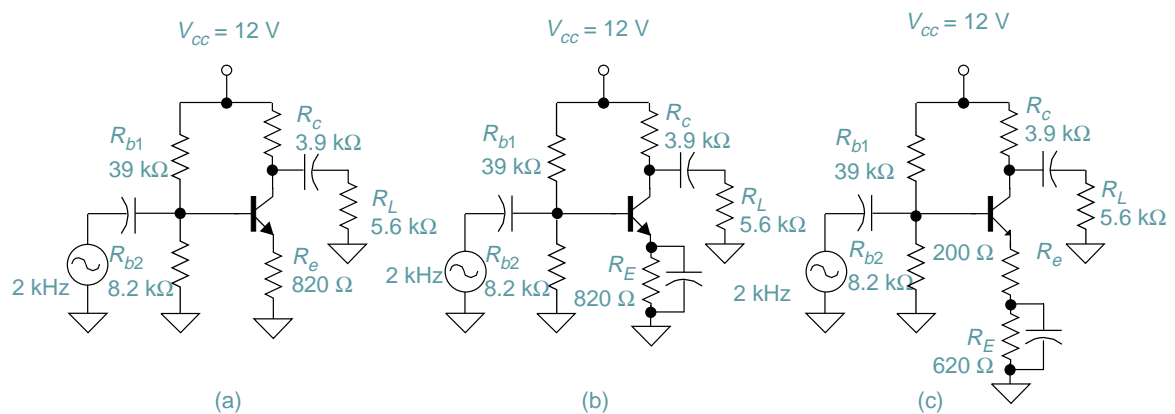

FIGURE 5-21
- Calculate and record  $V_B$ ,  $V_E$ ,  $V_C$ ,  $Z_{in}$ ,  $Z_{out}$ ,  $A_v$ , and maximum output voltage swing without distortion for each circuit in Figure 5-21.